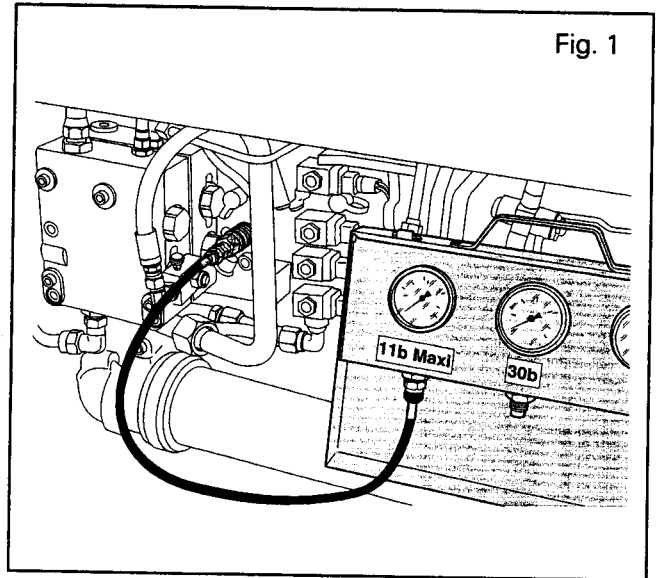

Fig. 1
- Connect a pressure gauge to the diagnostic connector located on the right-hand hydraulic cover (Figures 1 and 3) and check **P1**.